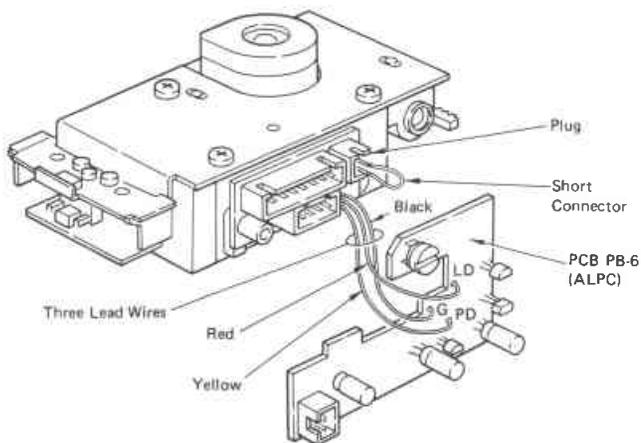

Fig. 7
- 10) Insert the short-connector, (Fig. 7) provided in the service part package of pickup besides pickup itself.